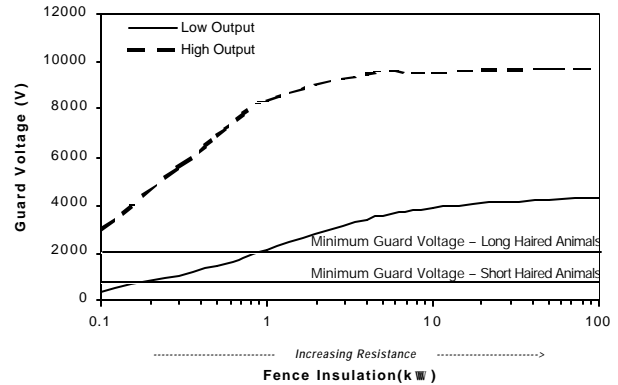

Figure 52. Guard Voltage for 3.3 mile (5.4 km) Fence.
**Shock Delivery:** Figures 52 and 53 show guard voltage outputs of the Gallagher M800 for 3.3 and 10 mile (5.4 and 16 km) lengths of single wire fence over a range of resistances. Table 24 provides the guard voltages at the "weeded" and "clean" fence conditions. Guard voltage values for other fence conditions are given in Appendix II. The higher the guard voltage the higher the shock delivered to the animal.
As can be seen from **Figures 52 and 53**, resistance did not appreciably affect shock delivery with the high output setting, since the voltage output was above 2,000 V for all fence conditions. Resistance did affect shock delivery with the low output setting, since the voltage output was below 2,000 V and 700 V for some fence conditions. The Gallagher M800 can be expected to deliver shock over a wide range of fence conditions on the high output setting.